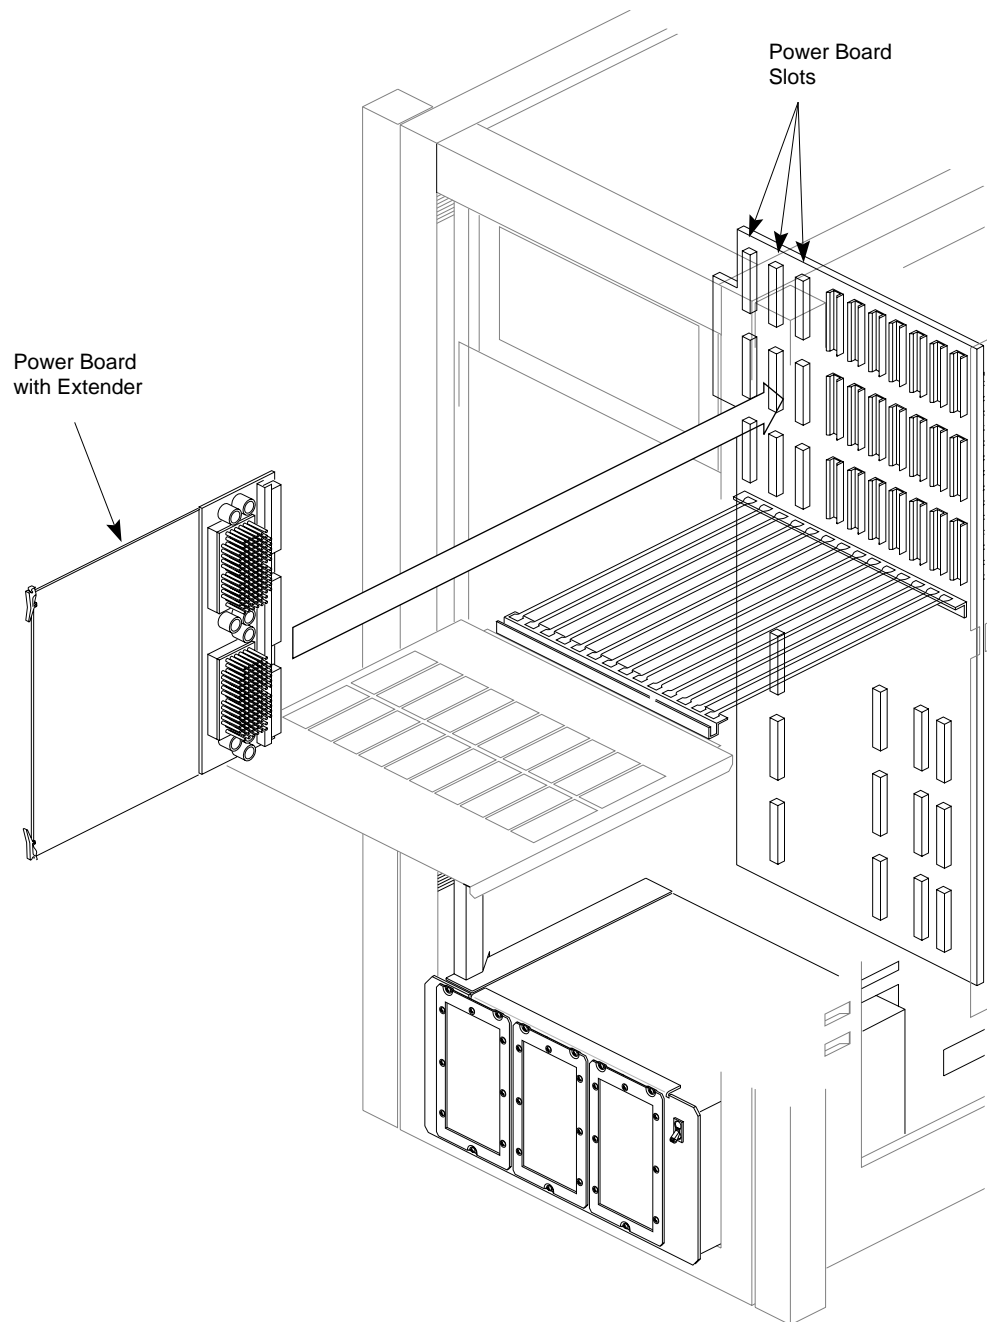

Figure 3-44 Cardcage 1 Power Board Installation (Server System Shown)
7. Remove the access panel from the top of the installed power supply tray by unfastening the two screws (see Figure 3-44).